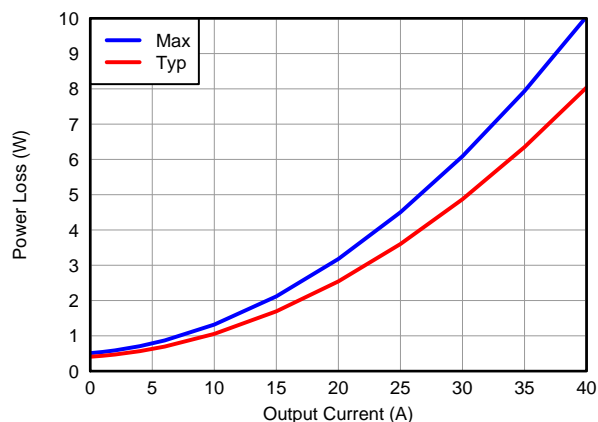

Figure 7. Power Loss vs Output Current
MOSFET centric parameters such as $R_{DS(ON)}$ and Q_{gd} are primarily needed by engineers to estimate the loss generated by the devices. In an effort to simplify the design process for engineers, Texas Instruments has provided measured power loss performance curves. Figure 7 plots the power loss of the CSD97370AQ5M as a function of load current. This curve is measured by configuring and running the CSD97370AQ5M as it would be in the final application (see Figure 18). The measured power loss is the CSD97370AQ5M device power loss which consists of both input conversion loss and gate drive loss. Equation 1 is used to generate the power loss curve.
The power loss curve in Figure 7 is measured at the maximum recommended junction temperature of $T_J = 125^\circ\text{C}$ under isothermal test conditions.
- Typical Power Loss at 25A = 3.5W (Figure 7)